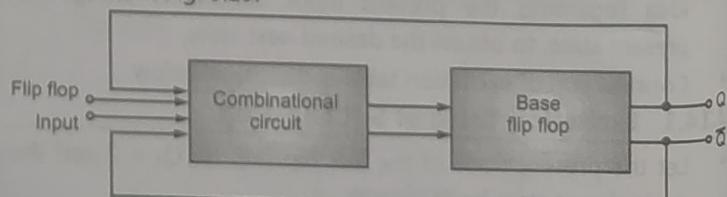

Fig. 3.29 : Block diagram used for flip flop conversion
- Conversion of Flip flops is based upon the block diagram as shown in Fig. 3.29.
- Base flip flop shown in the Fig. 3.29 is the flip flop to be converted. Here we need to design a combinational circuit for converting the base flip flop into desired one.